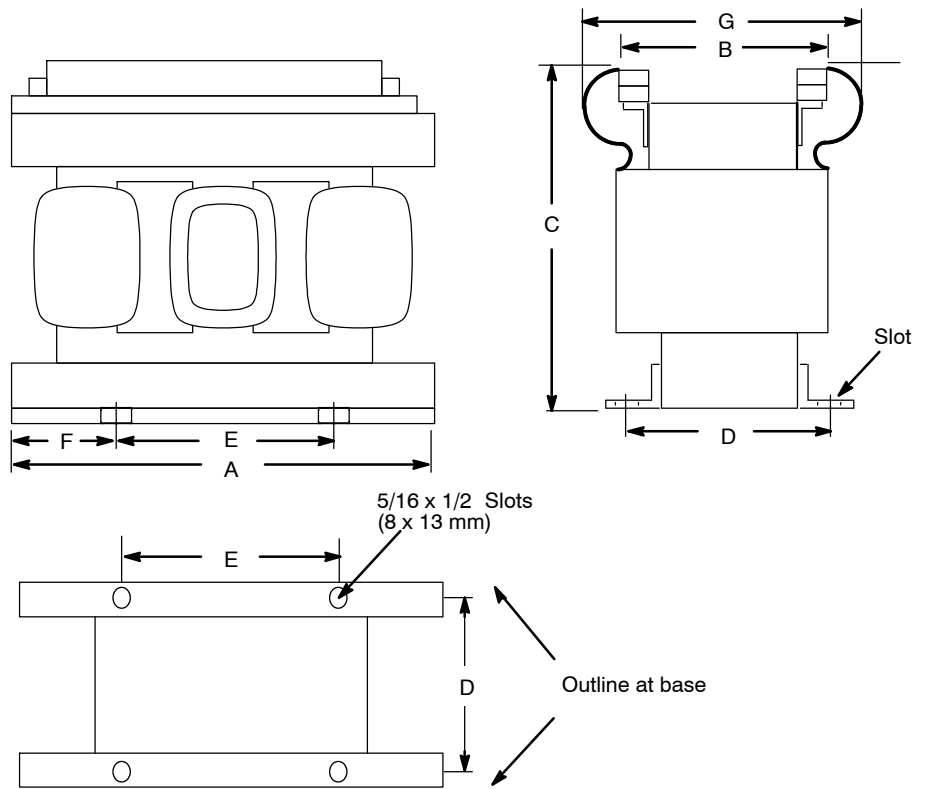
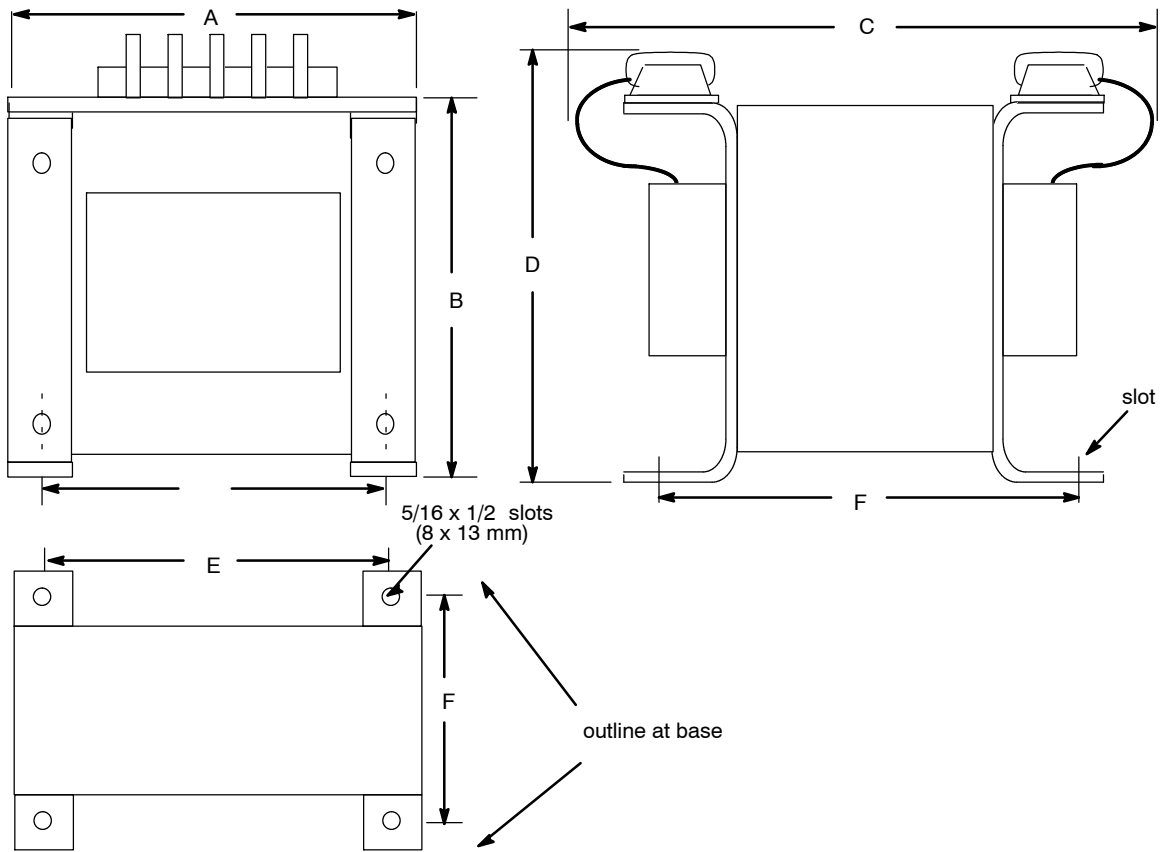

Figure 7 Open Frame Three-Phase Transformers
Figure 8 Open Frame Single-Phase Transformers
1. Refer to the following tables, Figure 7, and Figure 8 for the mounting dimensions and weight of your particular transformer. Dimensions D and E provide the distances between the mounting slots.